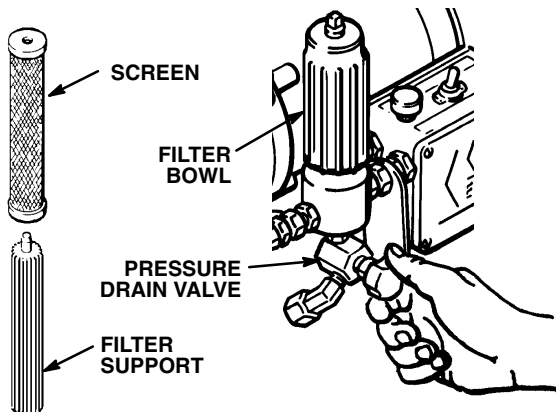

Fig 7
2. Remove the filter bowl and screen; see instruction manual 307-273, supplied. Clean the screen separately and install the bowl, without the screen, to flush the bowl. See Fig 7.